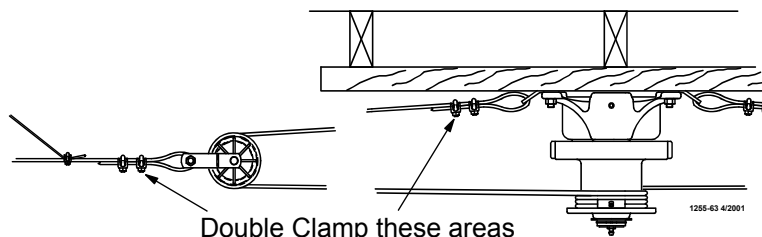

Figure 10. Double back arrangement for feed lines over 350' [107 m]
3. Extend the 3/16" [5 mm] Main Winch Cable the full length of the feeder line. Attach the cable temporarily to the ceiling with nails, staples, or some type of fasteners. **Figure 10** shows a double back arrangement for feed lines over 350' [107 m].